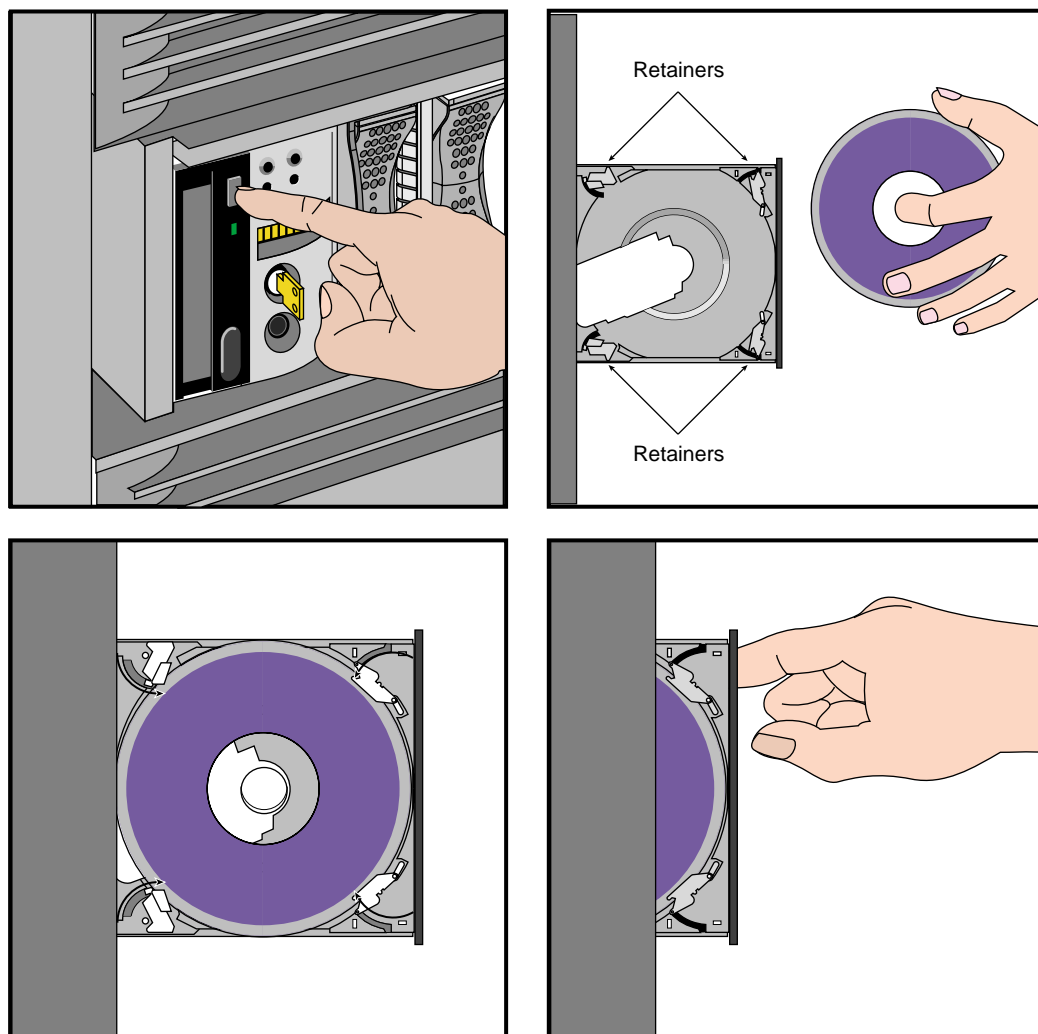

Figure 5-4 Installing a CD-ROM Into an SGI 2400 or 2800 Chassis
1. Press the eject button to release the CD-ROM carrier (see Figure 5-4).
2. Hold the CD-ROM diskette by the edges and place it into the holder clips as shown in Figure 5-4.